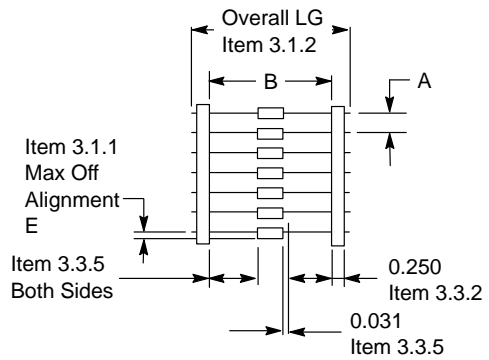

Figure 63. Component Spacing
3.1.1 – Component leads shall not be bent beyond dimension E from their normal position. See Figure 63.
3.1.2 – The "C" dimension shall be governed by the overall length of the reel packaged component. The distance between flanges shall be 0.059 inch to 0.315 inch greater than the overall component length. See Figures 63 and 64.
3.3.2 – Component's leads shall be positioned perpendicularly between pairs of 0.250 inch tape. See Figure 63.